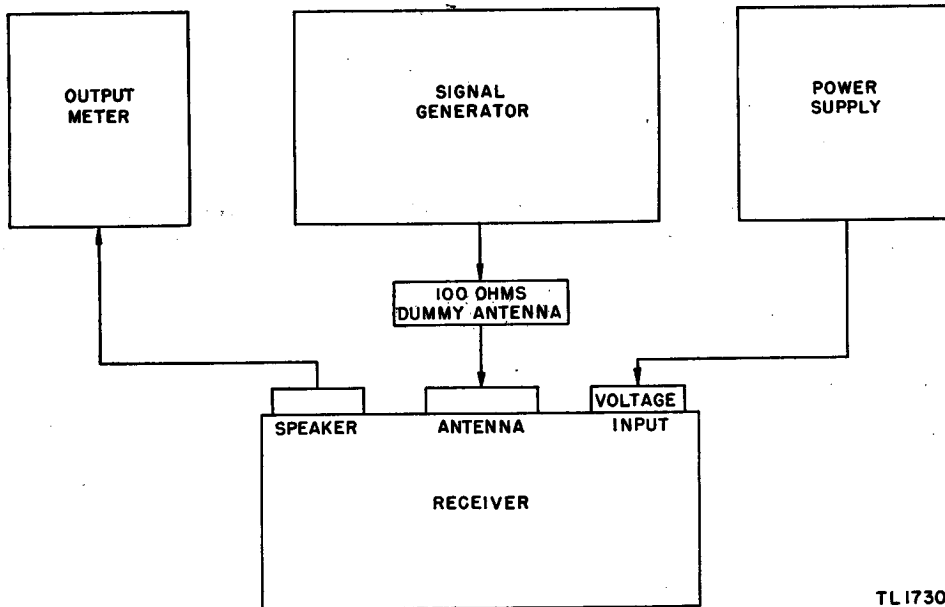

Figure 15. Block diagram of alignment set-up using output meter.
17. Alignment with Signal Generator and Output Meter (figs. 15 and 16)